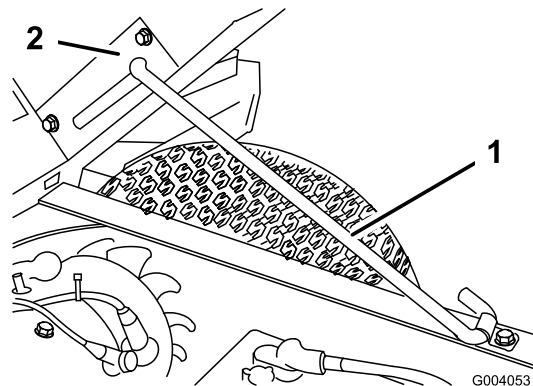

Figure 14
2. Pull the prop rod into the detent slot, securing the box (Figure 14).